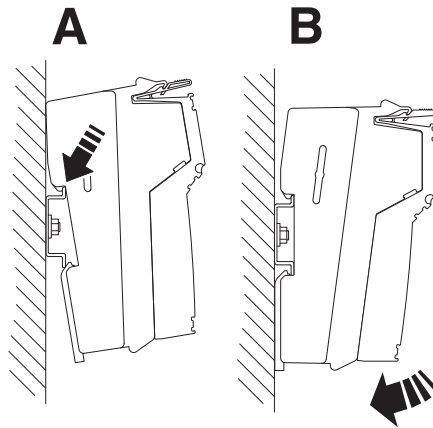
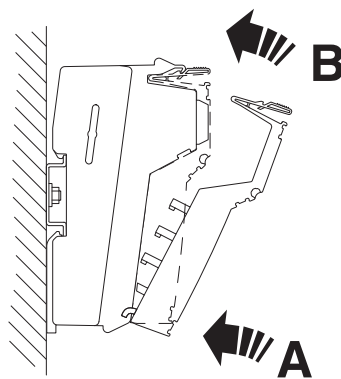

Figure 2-10 Mounting the Inline controller (1)
Figure 2-11 Mounting the Inline controller (2)
Mount the Inline controller horizontally (as shown in Figure 2-10 on page 22). The temperature range specified in Section "Ambient conditions" on page 60 is only guaranteed if the Inline controller is mounted in this position.
When mounting the Inline controller, proceed as shown in Figure 2-10 and Figure 2-11:
- Place the Inline controller onto the rail from above (Figure 2-10, A), then push it onto the rail fully (Figure 2-10, B).
First, insert the front connector catch into the front latching mechanism (Figure 2-11, A). Then push the connector toward the electronic base until it engages in the rear latching mechanism (Figure 2-11, B).